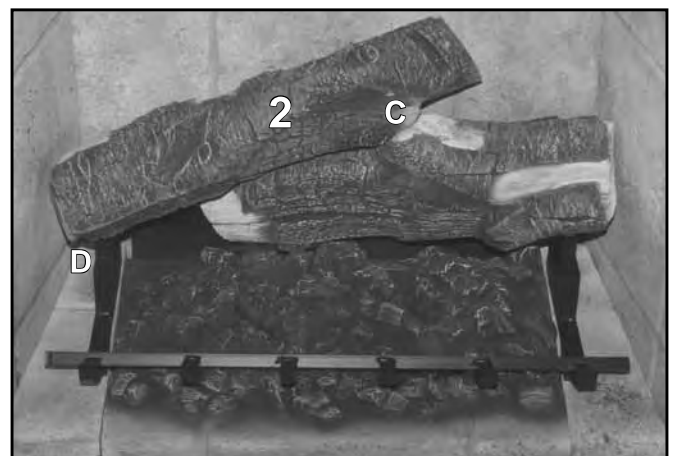

Figure 76: Log 2 in Place.
2. Install Left Rear log with the right side on the grate, using a groove on the bottom of the log to index itself to the grate (see Figure 76). The right side self locates on the first log. Alignment notches are provided for locating the centre area (see C in Figure 76). Align the front edge of the log with the upright section of the log grate (see D in Figure 76).